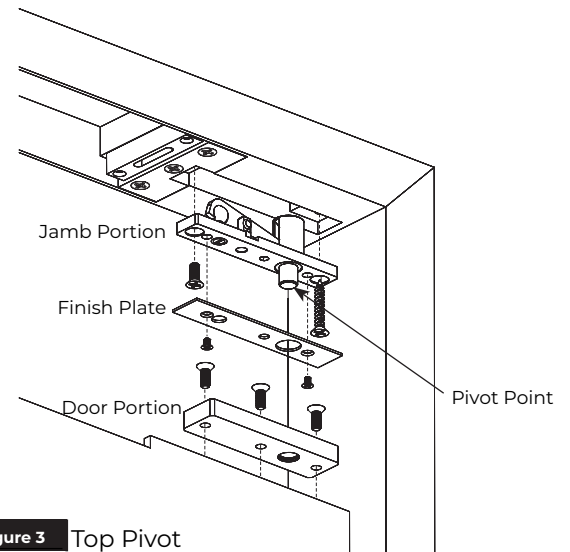

Figure 3 Top Pivot
1. Install jamb portion in prepared frame with one (1) #14 x 1-1/2" wood screw into frame and one (1) 1/4-20 x 5/8" machine screw into mounting clip. (Figure 3)
2. Install door portion in prepared door with three (3) #14 x 1-1/2" wood screws or 1/4-20 x 5/8" machine screws. (Figure 3)
3. Attach finish plate to jamb portion with two (2) 8-32 x 1/4" machine screws. (Figure 3)